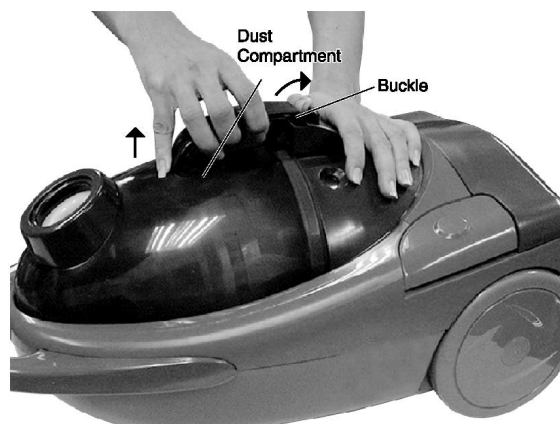

Fig.1
1. Push the Buckle backward and pull the dust compartment upward. (Fig.1)